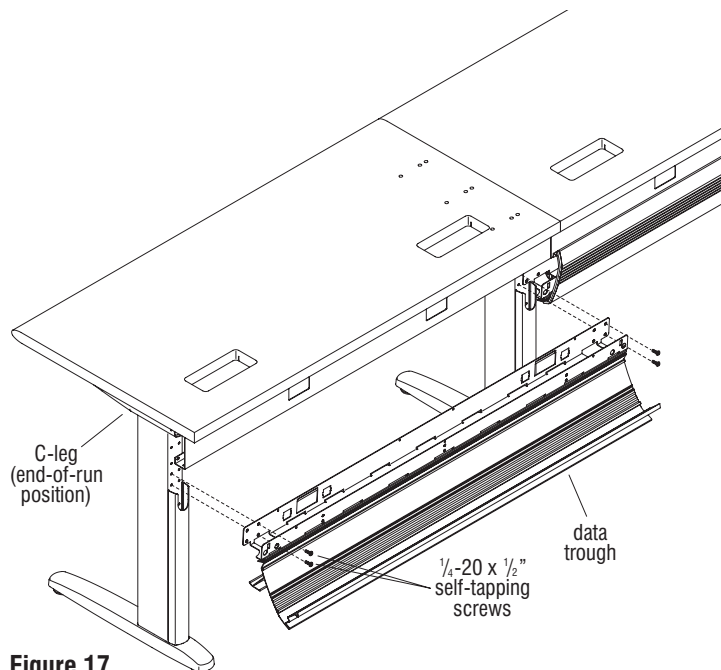

Figure 17
13. Open the doors on the data trough to be installed. Proceed to the non-user side of the finisher rectangular table. While facing the back, non-user side of the table, align the mounting holes of the data trough with the mounting holes on the back of both C-legs. The finisher table utilizes an end-of run and shared position C-leg. Reference Details T & U for correct holes and mounting location on the C-legs (Figure 17 & Details T & U).